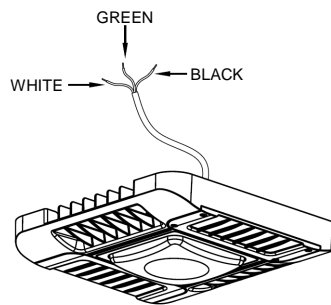
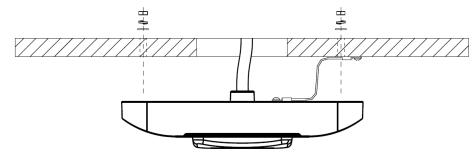

FIGURE 1
FIGURE 4
Connect these wires to the supply wires using the wire nuts provided in the hardware bag. (Fig. 1)
- Connect the wires as shown (Fig. 1) and then secure fixture to the ceiling with the screws and washers as shown (Fig. 4).